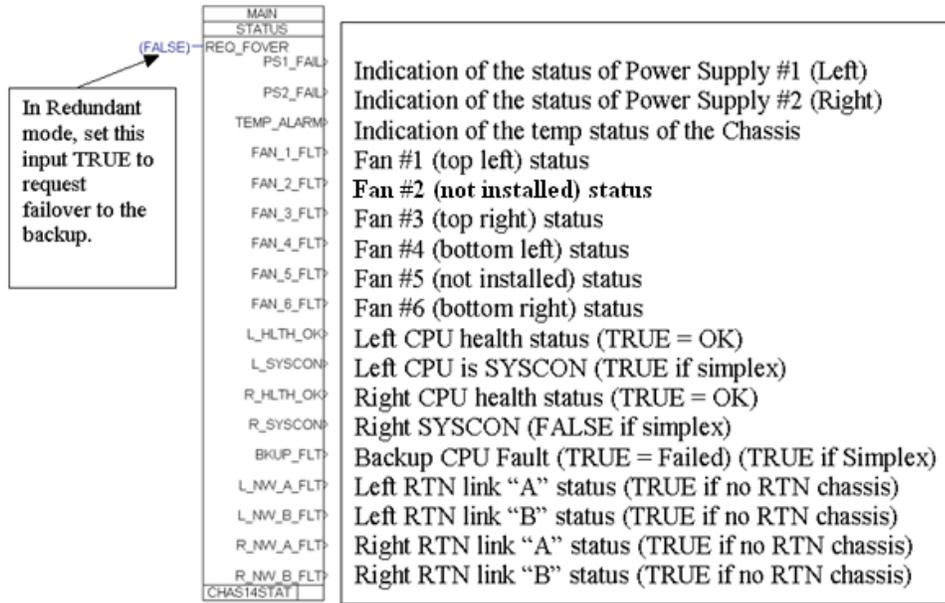

Figure 2-7—CHAS\_STAT Block
- If the BACKUP syncs in correctly, the backup fault indication in the GAP will go FALSE (see Figure 2-7).
One level of redundancy is available. This involves wiring two external input devices to two separate input channels. See Figure 2-7. In the event of a failed sensor or a failure in the connection from the sensor to the control, a valid input is still available.